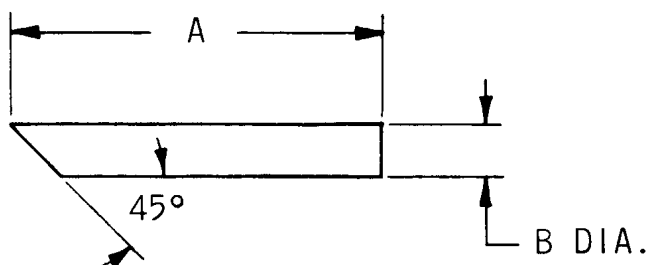

FIGURE 45
**Drift Pins** - Two pins are required for the removal of the disc from the disc holder. (See Figure 45, below.)